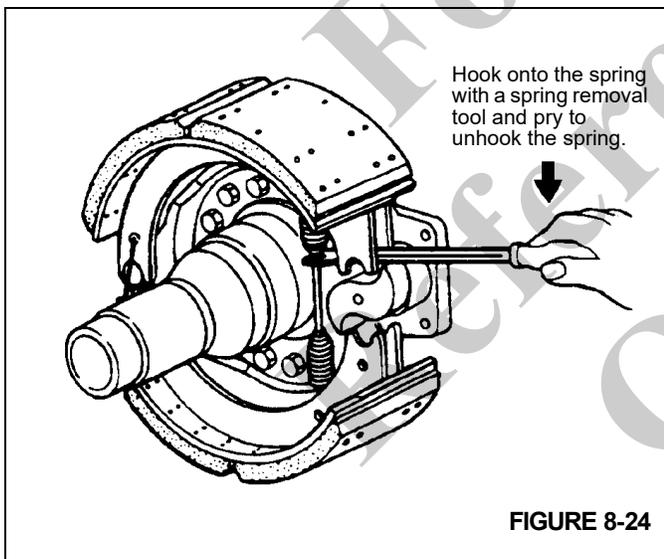

FIGURE 8-24
10. If springs are connected by spring post (horse collar), push cam end of upper shoe toward the cam. Otherwise push cam end of both shoes toward cam. With a spring removal tool, hook onto the spring and pry to unhook the upper shoe return spring. Remove the spring and discard (Figure 8-24).